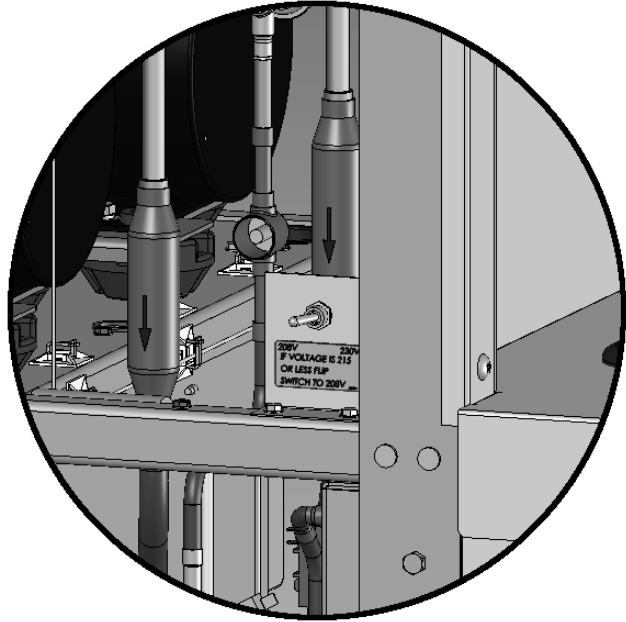

Figure 6-5 Buck-Boost Transformer Toggle Switch
2. The clicking sound should be within the first 1/2" of the spigot glide movement (Refer to Figure 6-5). If the switch does not close, an adjustment may be necessary.